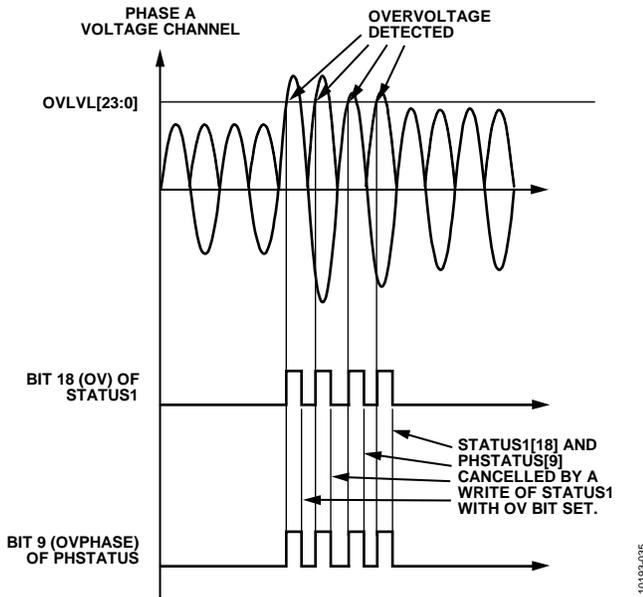

Figure 50. Overt Voltage Detection
The ADE7978 detects when the instantaneous absolute value measured on the phase voltage and current channels becomes greater than the thresholds set in the OVLVL and OILVL 24-bit unsigned registers. If Bit 18 (OV) in the MASK1 register is set, the  $\overline{\text{IRQ1}}$  interrupt pin is driven low in case of an overvoltage event. There are two status flags set when the  $\overline{\text{IRQ1}}$  interrupt pin is driven low: Bit 18 (OV) in the STATUS1 register and one of Bits[11:9] (OVPHASE[2:0]) in the PHSTATUS register to identify the phase that generated the overvoltage. The Status Bit 18 (OV) in the STATUS1 register and all Bits[11:9] (OVPHASE[2:0]) in the PHSTATUS register are cleared, and the  $\overline{\text{IRQ1}}$  pin is set to high by writing to the STATUS1 register with the status bit set to 1. Figure 50 presents overvoltage detection in the Phase A voltage.